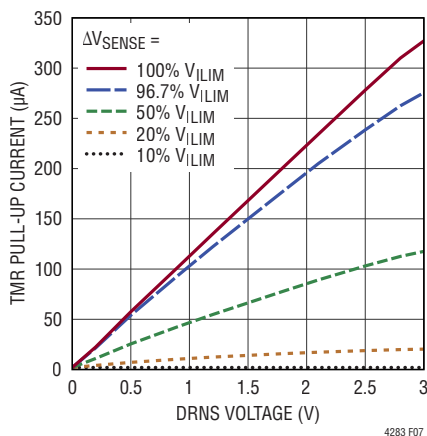

Figure 7. TMR Pull-Up Current vs  $\Delta V_{\text{SENSE}}$  and DRNS Voltage
**Case 1.** If active current limit is engaged in normal operation (power good signals are asserted), the TMR pull-up current of the LTC4283 is proportional to the attenuated drain voltage of the MOSFET at DRNS (top line in Figure 7). This is proportional to the power dissipation since the current through the MOSFET is fixed during current limit (provided that foldback is disabled in normal operation by setting the FB\_DIS bit in CONFIG\_1 register 0x0D). The TMR pull-up current in this condition is:
Figure 7 shows the TMR pull-up currents vs  $V_{\text{DRNS}}$  at four different  $\Delta V_{\text{SENSE}}$  levels below current limit.